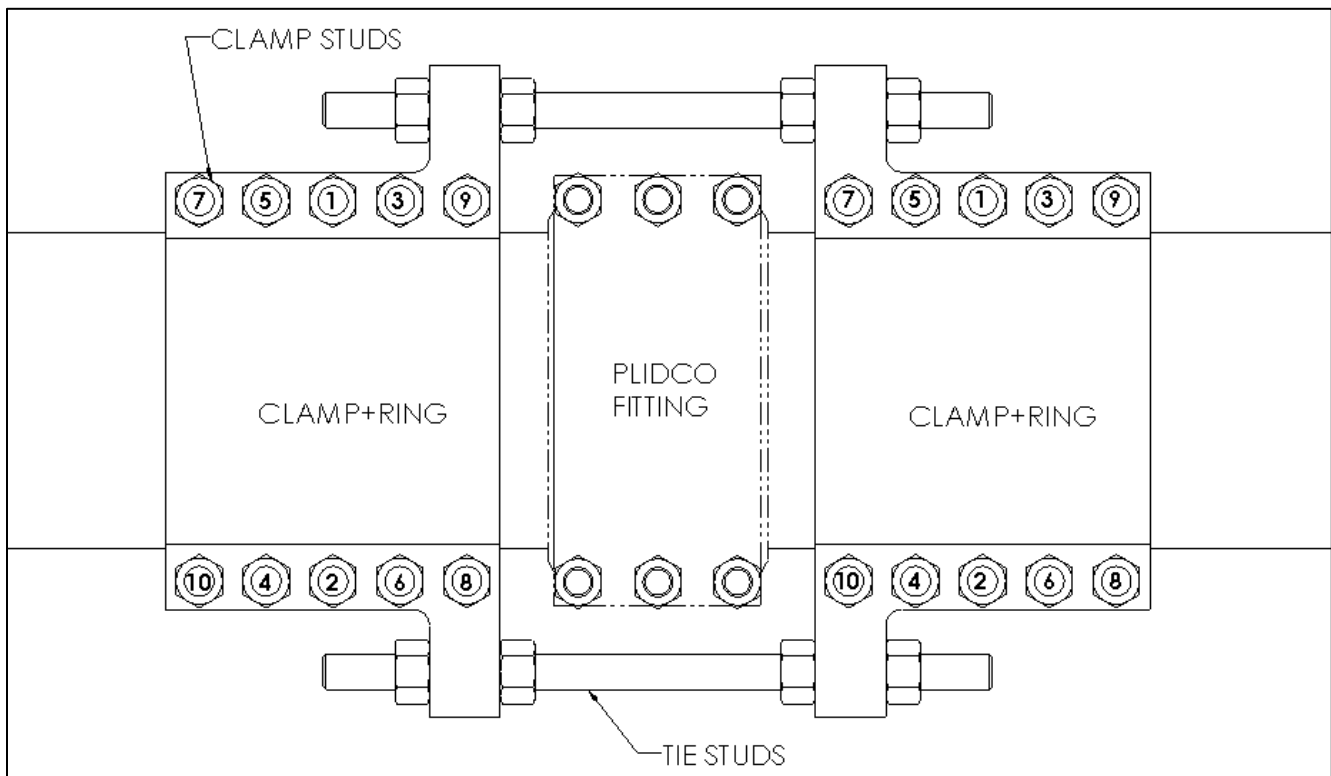

Figure 6
10. Torque the clamp studs and nuts on the PLIDCO Clamp+Ring uniformly, as indicated by the **Torque Chart for PLIDCO Clamp+Rings**. The best results are obtained by maintaining an equal gap all around the side bars while tightening the studs. Ensure there is full nut engagement by having a minimum of 1/4 inch (6.4 mm) of stud extending beyond the nut. The sequence for torquing the studs should follow the pattern shown Figure 6, and should be executed repeatedly as follows: